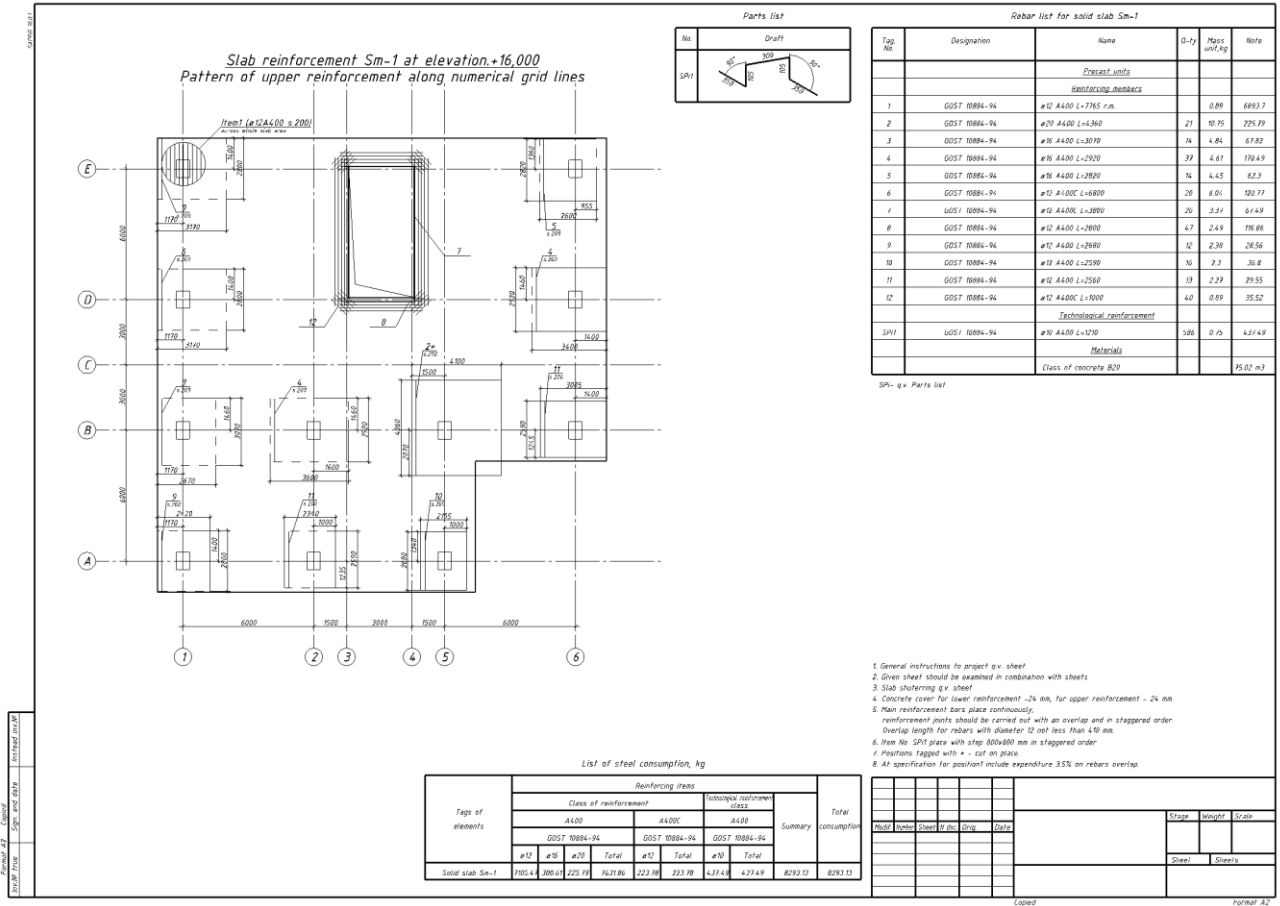

Figure 23.55. Drawing for the reinforcement pattern in the floor slab at +16.000
- ⇒ To indicate appropriate location, click the mouse button (see Fig. 23.55).